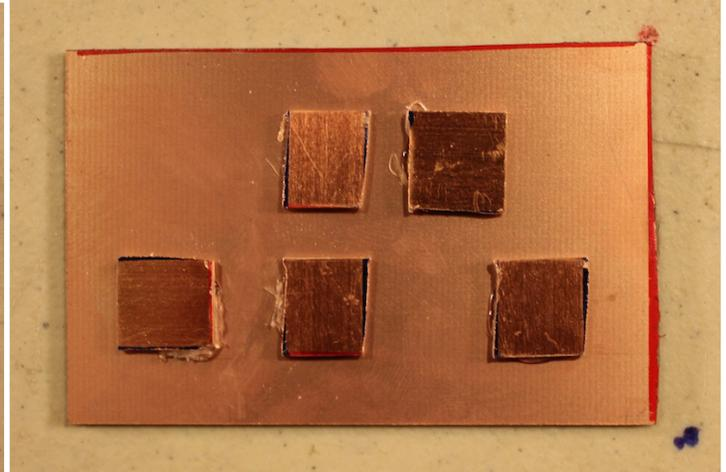

Figure 2
-Arrange the 5 smaller $\frac{1}{2}$ " squares on the larger copper plate as shown in figure 2 and glue them down using hot glue or super glue. (Make sure the copper side is facing up)